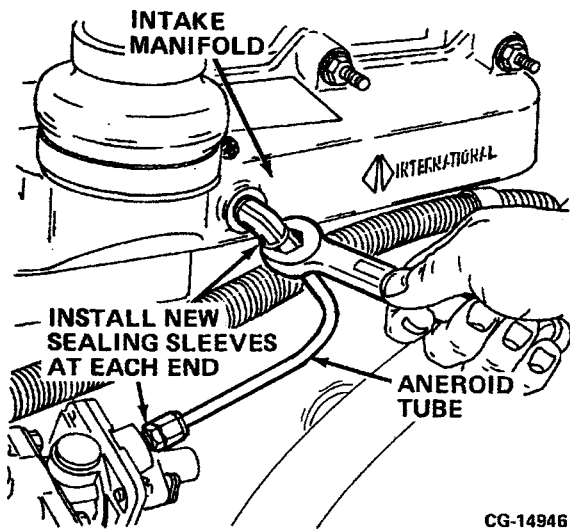

Figure 11.43. Install Aneroid Tube
- Tighten the connecting nuts at each end of the tube as shown in Figure 11.43.